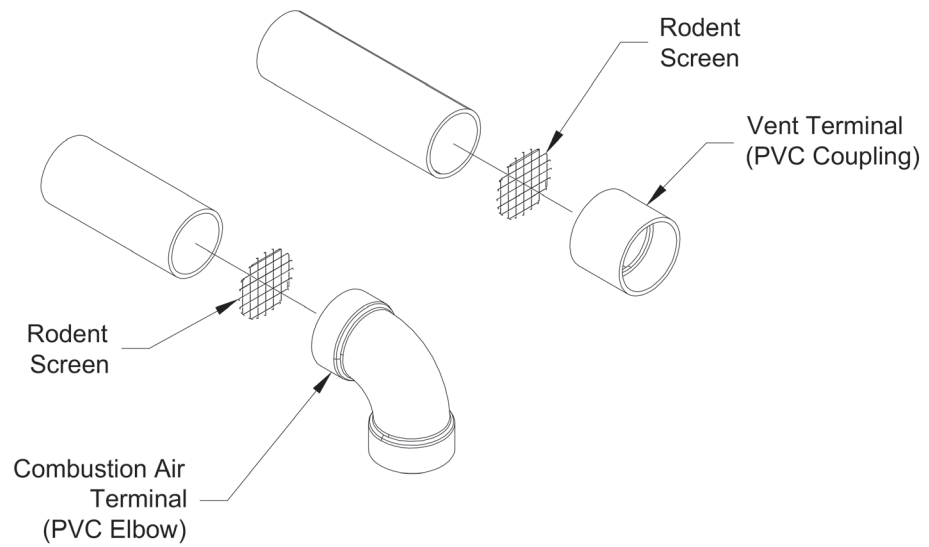

Figure 7.27: Installation of Standard Horizontal Terminals
- a. See Figure 7.27 for proper orientation of twin pipe horizontal terminals. Outer edge of both terminals must be within 10" from wall surface. (Figure 7.6)